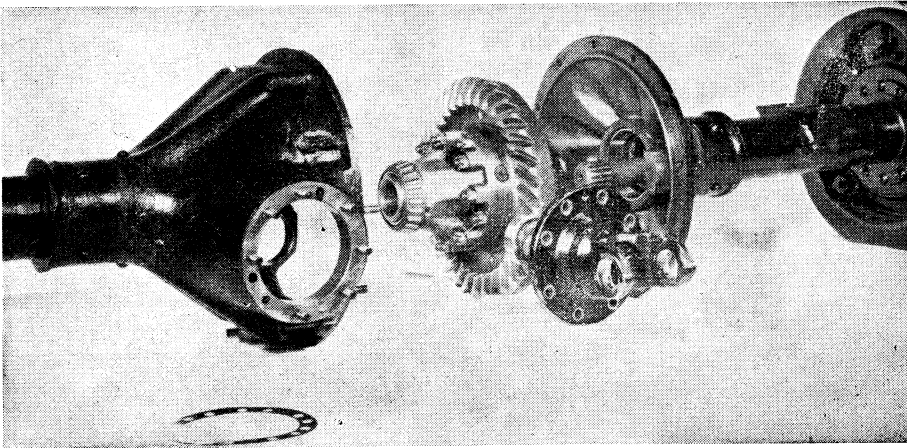

Fig. 94 Timken Unit Housing Type Axle
2. Remove bolts, nuts and washers from case and cover and remove cover half, Fig. 94.